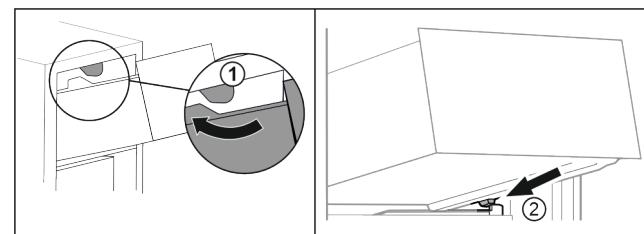

Fig. 64
- Guide drawer around the upper stoppers. Fig. 64 (1)
- Place drawer at an angle behind the lower stoppers onto moulded rib. Fig. 64 (2)